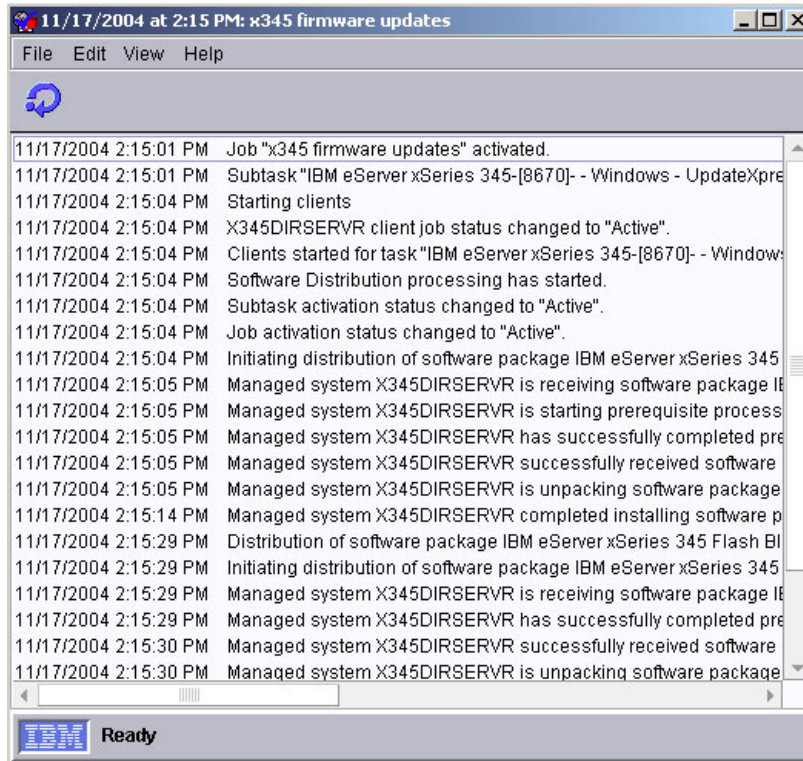

Figure 7-22 Viewing high detail for job execution history
28. This will open up the job execution history. The viewing detail is set to low by default, but you can change this to be high detail by selecting **View** → **Detail** → **High**. You will then receive the complete breakdown of the execution history, as seen in Figure 7-22 on page 266.